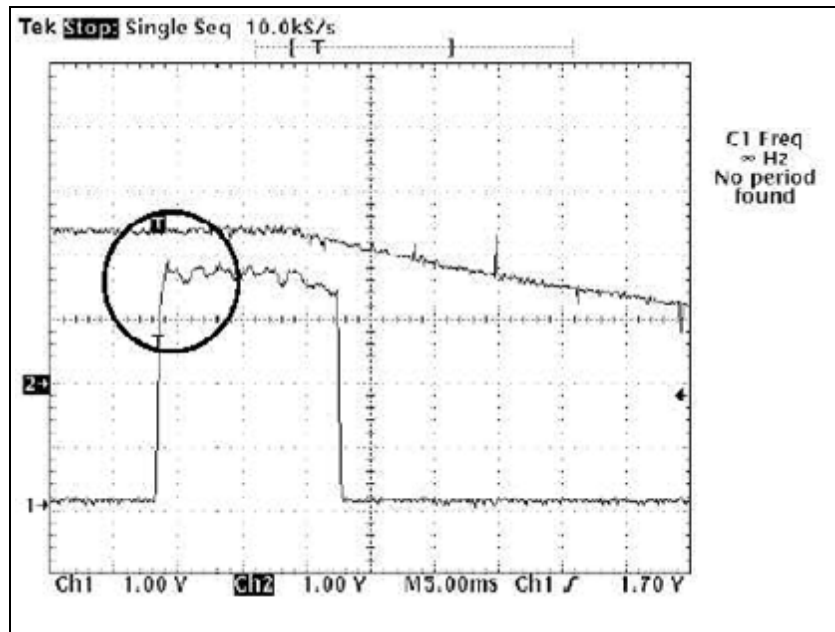

Fig. 15: Filament current ok
- Oscilloscope channel 1 at D916 TP "JR" (6) and channel 2 at D916 TP "IH" (8), D916 TP "GND" (1).
- ⇒ See example (Fig. 15 / p. 31).